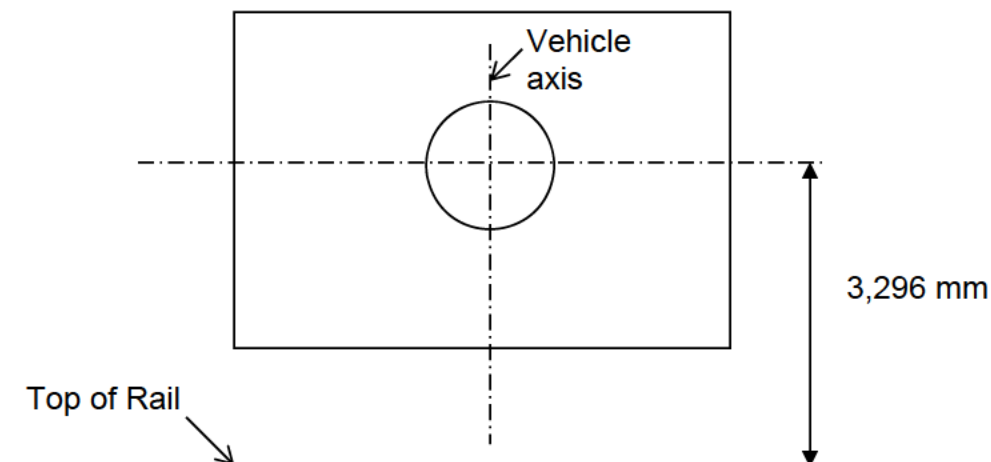
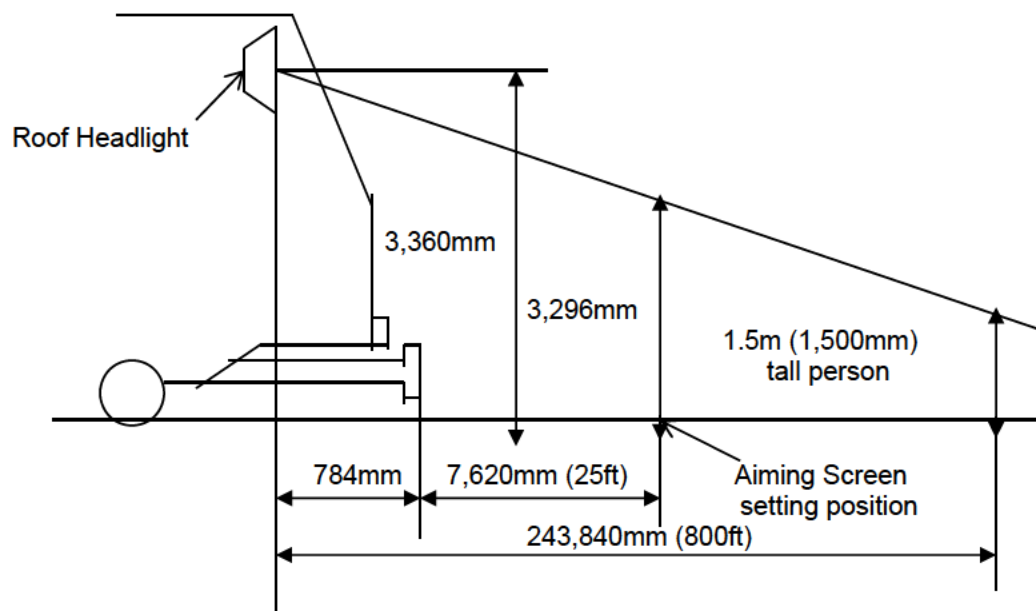

Figure 5-1: Aiming Screen for Roof Headlight
Figure 5-2: The Relation Between Roof Headlight and Aiming Screen for Roof Headlight
1. Set up the aiming screen at 7,620 mm (25 ft) ahead of the coupler face. See Figure 5-1.
The roof headlight is aimed so that the center of the high intensity zone is at the intersection of 3,296 mm high from top of rail and the Vehicle Axis. Use Figures 5-1 and 5-2 to adjust. (3,296 mm is calculated from the relation shown in Figure 5-2).